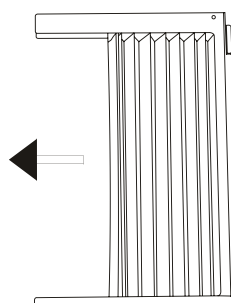

Fig.1
A. Place unit on floor, a bench or a table. Hold the Accordion Panel in one hand and gently pull back the center to free the open end. See Fig.1